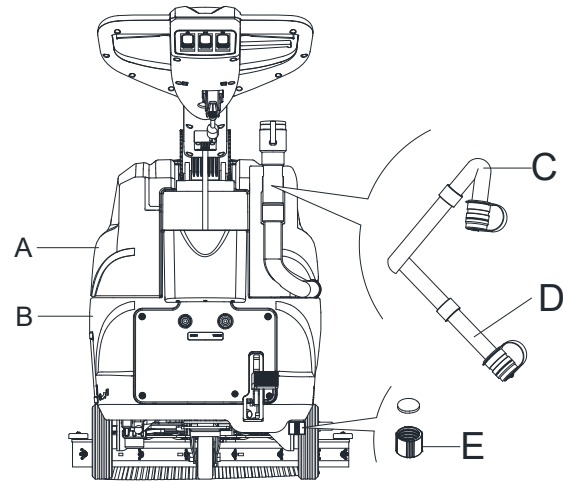
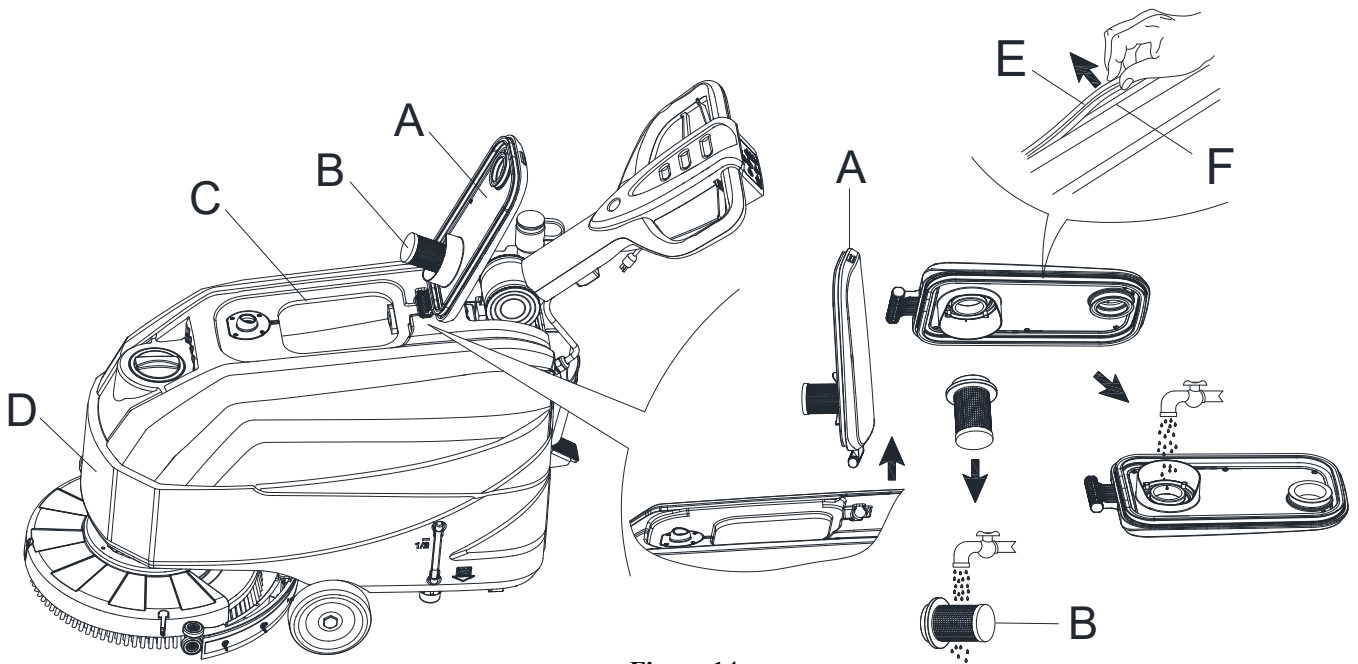

Figure 10
Figure 14
When draining the wastewater, the vacuum tube for waste must be folded (C, Figure 10) and lowered to a lower position (D, Figure 10), and then open the lid of the vacuum tube for waste to drain the water. Do not make the outlet of the vacuum tube for waste face upward to drain the water vertically. This is to avoid wastewater spilling onto the operator.
8. Empty the solution tank with the outlet cover (E, Figure 10). After working, rinse the tank with clean water.
2. Empty the tanks (A and B, Figure 10) as shown in the previous paragraph.
3. Turn the recovery tank lid (A, Figure 14) 90degree position where it can be taken off from the recovery tank, and then take out the float ball filter (B) from the recovery tank lid.
4. Clean the recovery tank lid (A), recovery tank (C), clean solution tank (D) and the float ball filter (B). Empty the recovery tank with the drain hose (D, Figure 10).
5. Install the float ball filter (B) and the recovery tank lid (A).
**The tank sealing strip (E) produces the vacuum inside the tank when the vacuum motor works. The tank must be sealed so it can effectively absorb the water from the ground to recovery tank.**
7. Check whether the contact surface of sealing strip (E) has integrity and sealing is sufficient. If necessary, take the sealing strip of the tank out of the groove (F) and replace it. Assemble the new sealing strip as shown in (Figure 14), the joint should be back in the middle area.
8. Close the recovery tank lid (A).